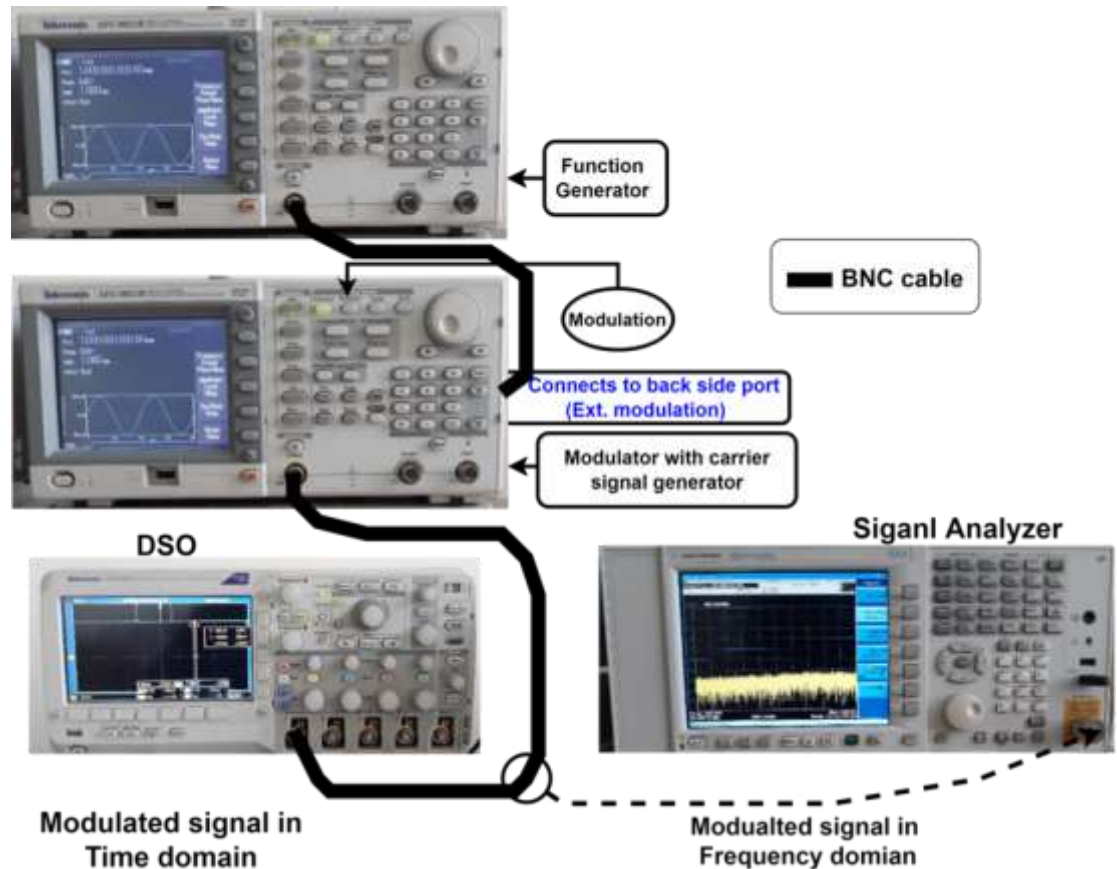

Figure 2.3 Connection diagram of FM for frequency domain analysis.
1. In the **Function Generator** (shown in Fig. 2.3), select the continuous button (Ⓢ) modulating signal type (Sine, Rectangular, Ramp, etc.) and further set amplitude and frequency of the modulating signal.
2. Take the output (OUT) of the **Function Generator** acting as the modulating signal (Sine, Ramp, Rectangular, etc.) and connect to the function generator labeled as **Modulator with Carrier Signal Generator** (as shown in Fig. 2.3) in the backside port labeled as Ext. Modulation.
3. Next, in the **Modulator with Carrier Signal Generator** (as shown in Fig. 2.3), select Modulation button (AM/FM/PM/FSK) (Ⓢ) select External input (Ⓢ) Sine function (set carrier frequency and amplitude) (Ⓢ) deviation.
4. Further, connect the output (OUT) of the **Modulator with Carrier Signal Generator** to the DSO for time-domain observation as shown in Fig. 2.3.